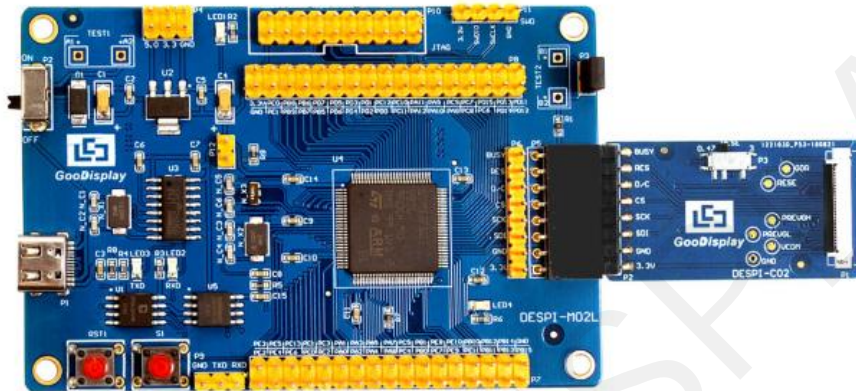

Figure 3 : Connection between DESPI-M02L and DESPI-C02
1) Connect DESPI-C02 to DESPI-M02L as shown in Figure 3. Connect e-paper FPC to DESPI-C02 as shown in Figure 4. (Pay attention to the direction of the e-paper.)